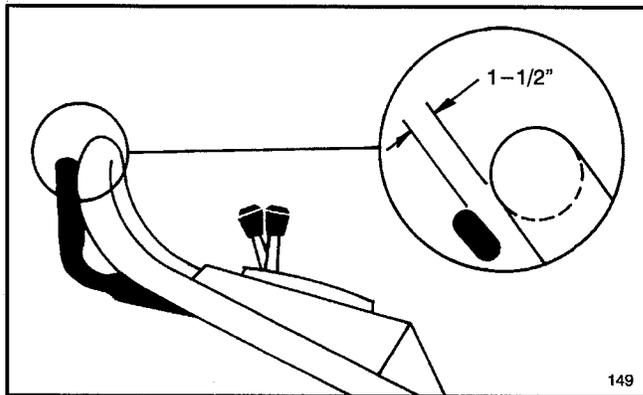

Figure 23
4. Lift control bar until some resistance is felt. Control bar should be 1 1/2" from handle when properly adjusted (Fig. 23).